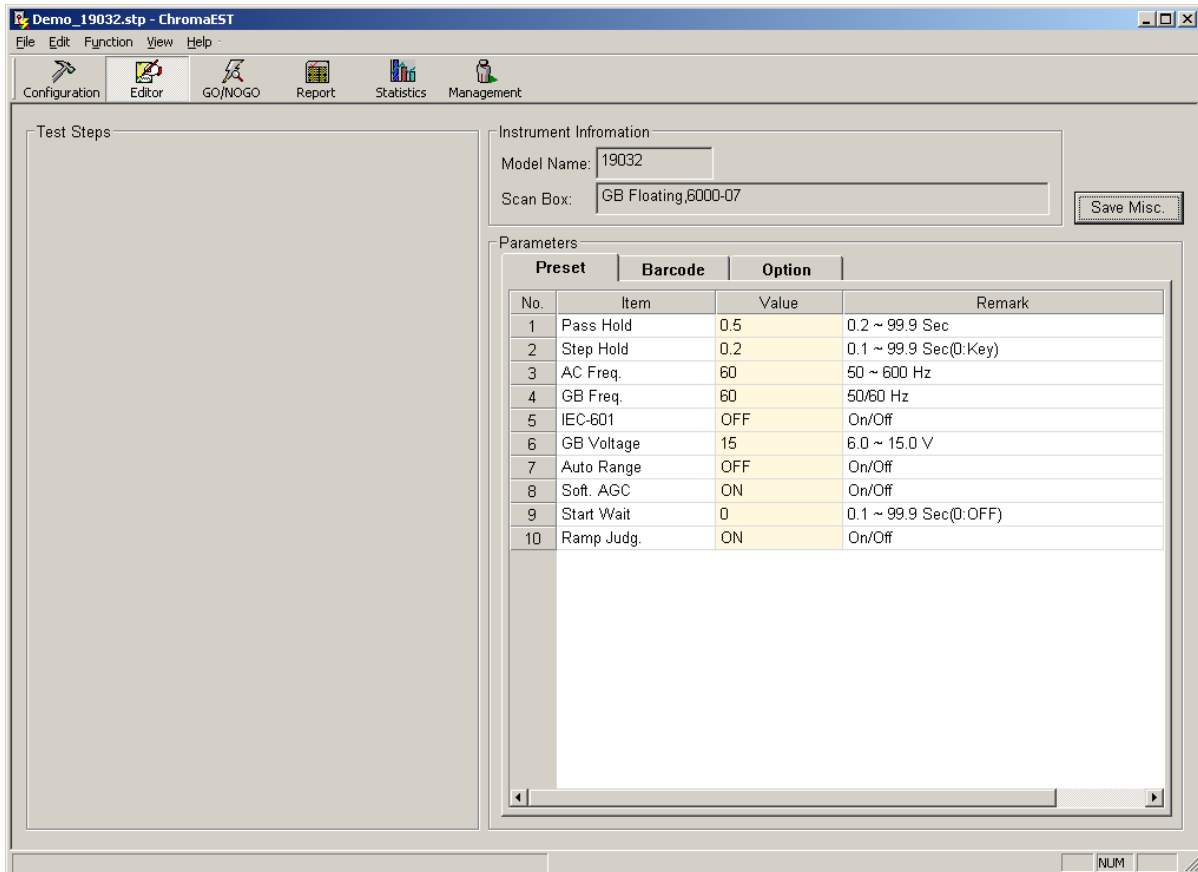

Figure 5-17 Miscellaneous
Click **Miscellaneous**, other functions will be shown as *Figure 5-17*. It is divided into three parts, click **Save Misc.** to save the settings.
*Figure 5-17* corresponds to Preset function on stand-alone, some advanced test functions can be set at here. For more function descriptions, please refer stand-alone User's Manual. Before entering Gonogo, the software will process Preset loading firstly and next to download test items of TP.